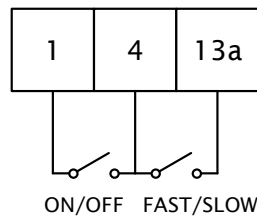

Figure 6.12: Two Speed Control
1. Wire two SPST switches as shown in Figure 6.12.